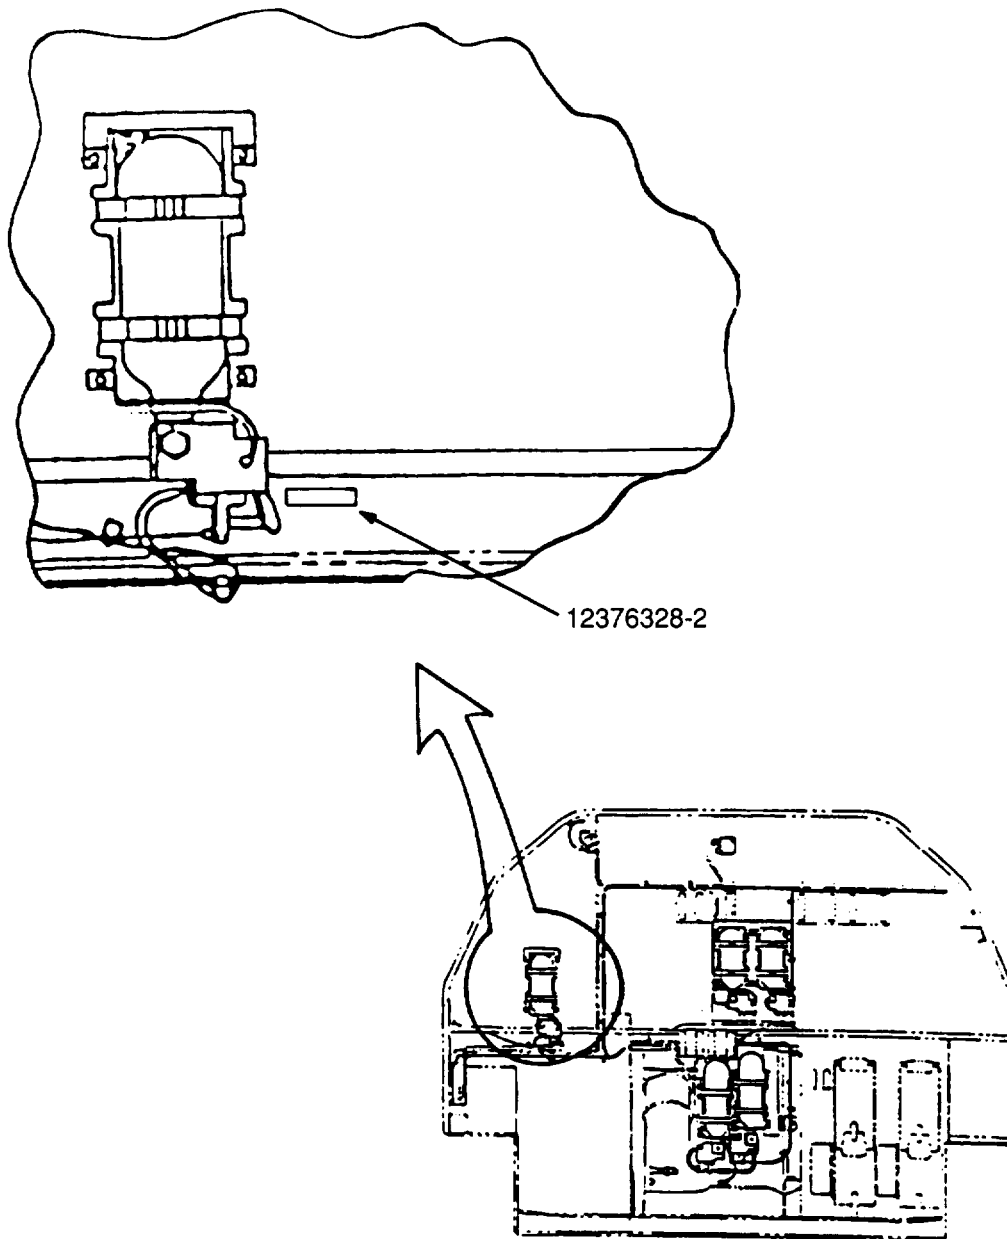

Figure 2
6. Clean the surface area on the APU Bulkhead where the label is to be placed (reference Figure 2) with detergent.
7. Remove the protective backing from label 12376328-2* and position on the APU Bulkhead as shown in Figure 2.